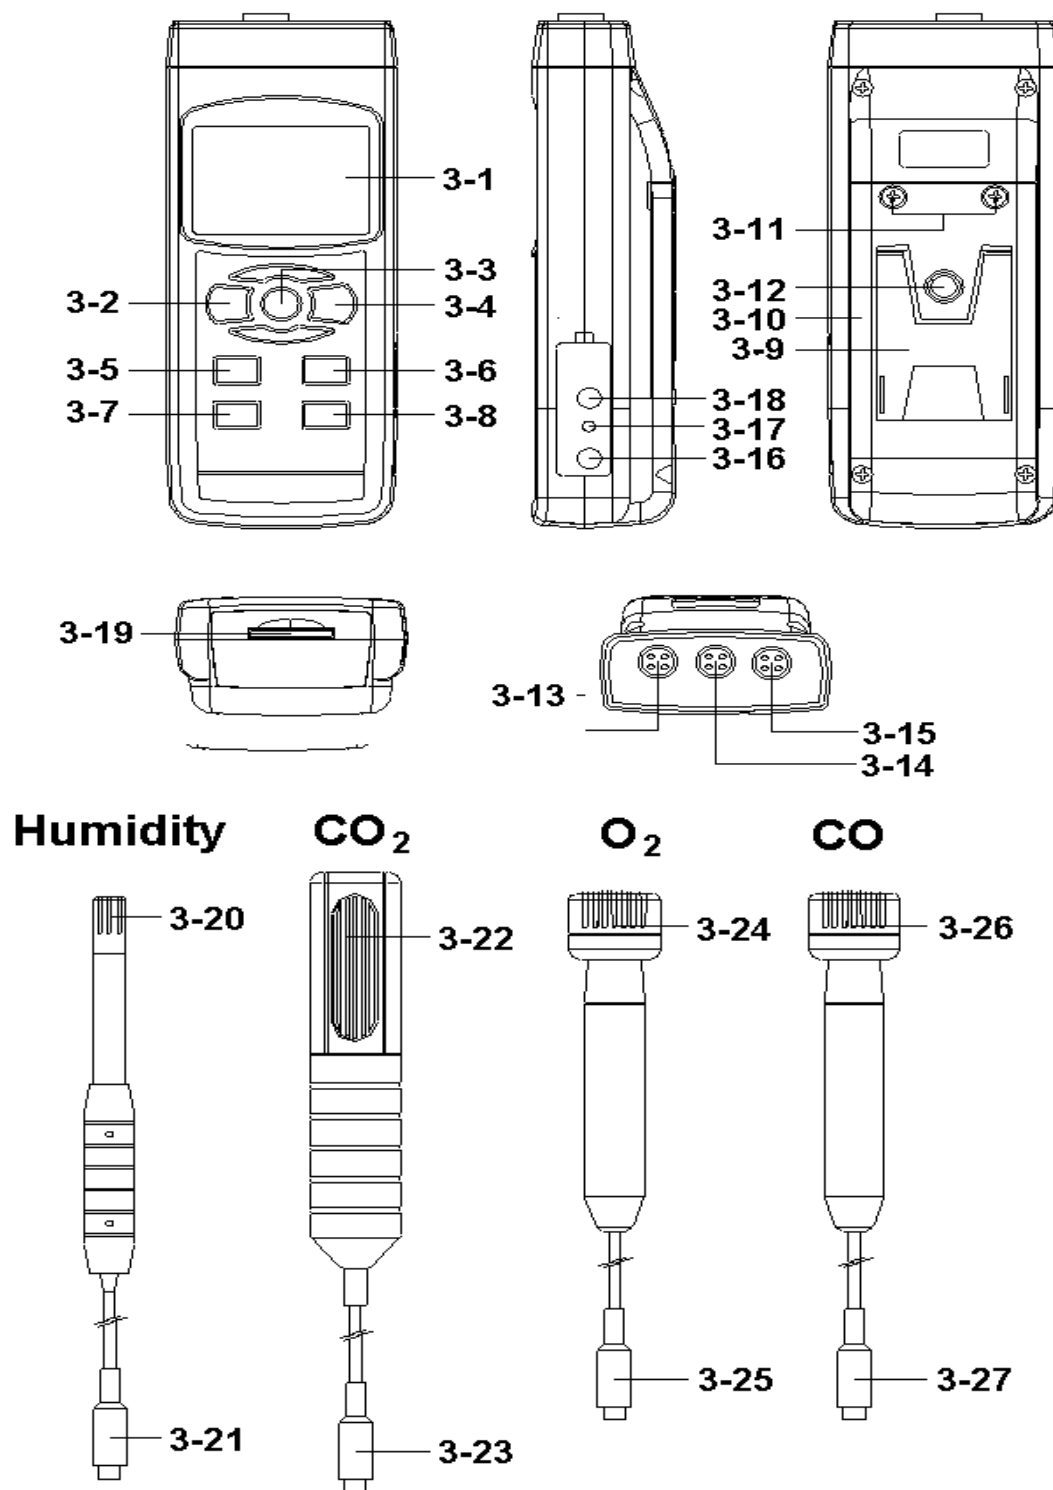

Fig. 1
- 1) Plug in the " Plug of probe " (3-21, 3-23, 3-25, 3-27 Fig. 1) to meter's " Probe Input Socket " (3-13, 3-14, 3-15 Fig. 1)
- 2) Power on the meter by pushing the " Power Button " (3-2, Fig. 1) once.
- 3) Press the " Function Button " (3-6, Fig. 1) once in sequence to select the measuring function :
During the measurement, press the " Hold Button " (3-3, Fig. 1) once will hold the measured value & the LCD will display a " HOLD " symbol.
- 1) The data record function records the maximum and minimum readings. Press the " REC Button " (3-4, Fig. 1) once to start the Data Record function and there will be a " REC " symbol on the display.
- a) Press the " REC Button " (3-4, Fig. 1) once, the " REC MAX " symbol along with the maximum value will appear on the display.
If intend to delete the maximum value, just press the " Hold Button " (3-3, Fig. 1) once, then the display will show the " REC " symbol only & execute the memory function continuously.
- b) Press the " REC Button " (3-4, Fig. 1) again, the " REC MIN " symbol along with the minimum value will appear on the display.
If intend to delete the minimum value, just press the " Hold Button " (3-3, Fig. 1) once, then the display will show the " REC " symbol only & execute the memory function continuously.
After power ON, the " LCD Backlight " will light automatically. During the measurement, press the " Backlight Button " (3-2, Fig. 1) once will turn OFF the " LCD Backlight ".
Prepare a " SD memory card " (1 GB to 16 GB, optional), insert the SD card into the " SD card socket " (3-19, Fig. 1). The front panel of the SD card should face against the down case.
Press the " REC Button (3-4, Fig. 1) once , the LCD will show the text " REC ", then press the " Logger Button " (3-8, Fig. 1), the bottom text " DATALOGGER " will flashing, at the same time the measuring data along the time information will be saved into the memory circuit.
During execute the Datalogger function , if press the " Logger Button " (3-8, Fig. 1) once will pause the Datalogger function (stop to save the measuring data into the memory circuit temporally). In the same time the text of " DATALOGGER " will be no flashing.
If press the " Logger Button " (3-8, Fig. 1) once again will execute the Datalogger again, the bottom text of " DATALOGGER " will flashing .
During pause the Datalogger, press the " REC Button " (3-4, Fig. 1) continuously at least two seconds, the " REC " indication will be disappeared and finish the Datalogger.
Press the " REC Button (3-4, Fig. 1) once , the LCD will show the text " REC ", then press the " Logger Button " (3-8, Fig. 1) once, the bottom text " DATALOGGER " will flashing once and Beeper will sound once, at the same time the measuring data along the time information will be saved into the memory circuit. The lower Display will show the Position (Location) no. and saved into the SD card too.
During execute the Manual Datalogger, press the " ▲ Button " (3-5, Fig. 1) the lower no. (position no.) will flashing. It can use the " ▲ Button " (3-5, Fig. 1) or " ▼ Button " (3-6, Fig. 1) to set the measuring Location no. (1 to 99, for example room 1 to room 99) to identify the measurement location , the lower Display will show $P \times (x = 1 \text{ to } 99)$.
Press the " REC Button " (3-4, Fig. 1) continuously at least two seconds, the " REC " indication will be disappeared and finish the Datalogger.